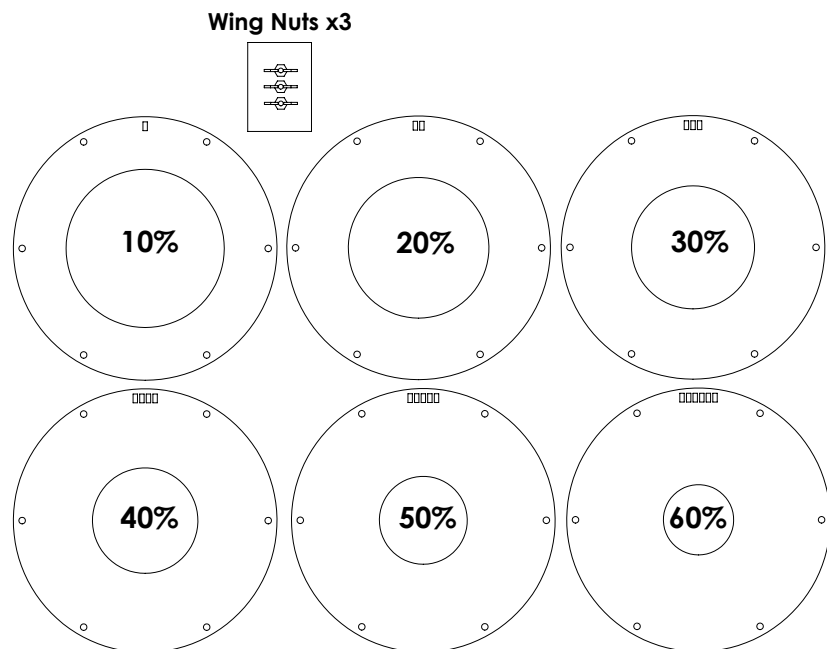

Figure 48. Restrictor Ring Kit
**Note:** There are six different restrictor sizes, they are marked with rectangular holes which coincide with the percentage of restriction (Figure 48).